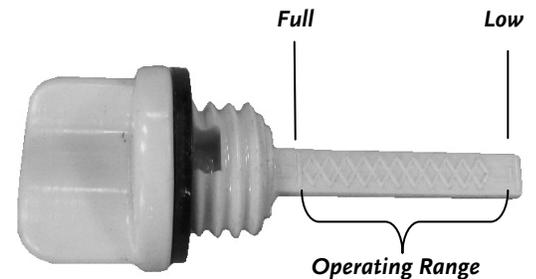

Figure 14
4. Continue adding a few ounces of Oil at a time, rechecking the Dipstick until the Oil reaches the fill mark (**Figure 14**). Be careful not to overfill.
6. Continue adding a few ounces of Oil at a time, rechecking the Dipstick until the Oil reaches the fill mark (**Figure 14**). Be careful not to overfill.